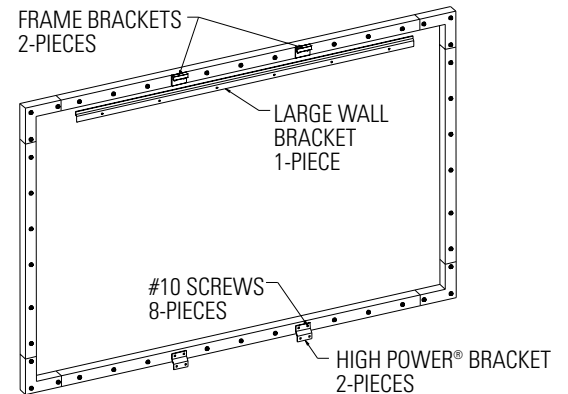

FIGURE 9
1. Use the supplied #10 screws to attach two frame brackets and two High Power® brackets to the back of the frame as shown in Figure 9.